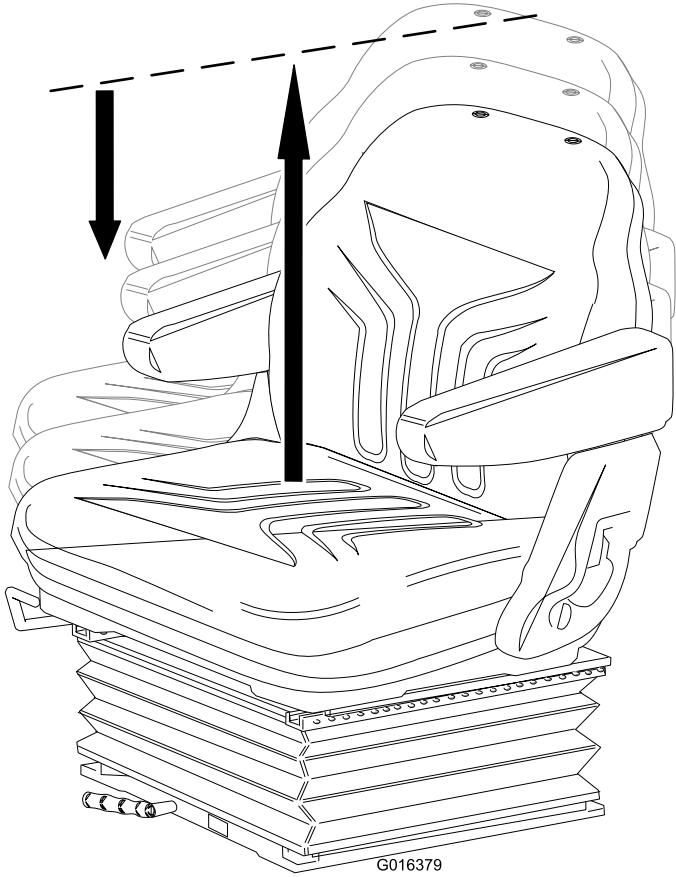

Figure 9
- **Height adjustment:** Manually lift the seat for incremental height adjustment. To lower, lift the seat beyond its highest setting, then allow it to drop to the lowest setting (Figure 9).